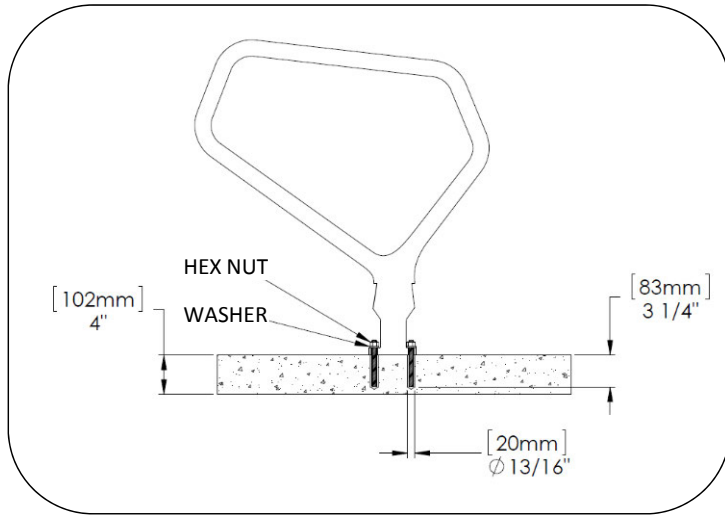

Fig. 3 – Hole size for embedded bike rack
6. Install washer and hex nut as shown in Fig. 3.